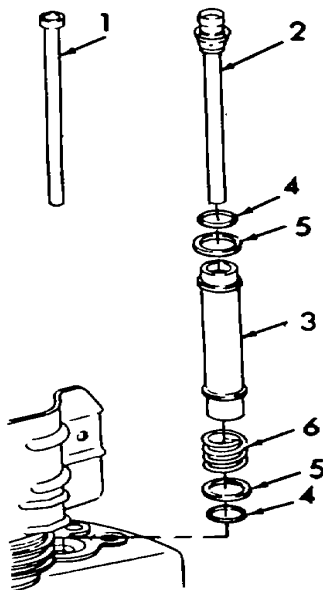

Figure 5-20. Pushrods and Protection Tube Removal.
- (9) Refer to figure 5-20 and remove pushrod (1) and pushrod (2) from protection tubes (3).
(10) Remove protection tubes (3), packings (4), shims (5), and springs (6). Discard packings (4).
- (4) Remove depth gauge (1).
- (5) Install new (4, figure 5-20), shims (5), spring (6), and protection tubes (3).